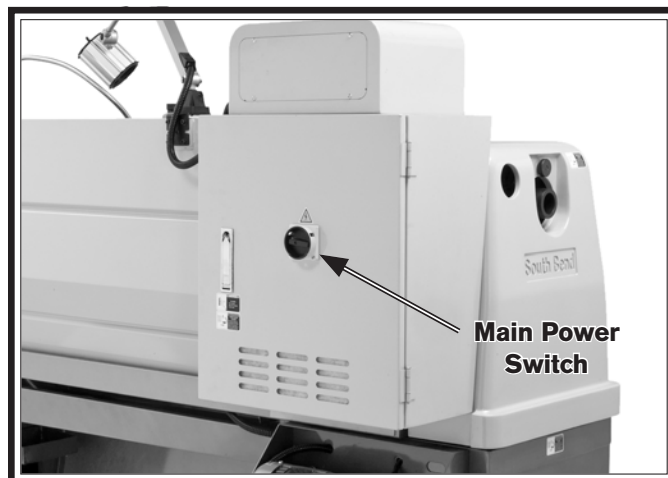

Figure 7. Location of the master power switch.
1. Make sure the master power switch (see **Figure 7**) on the rear of the machine is turned **OFF**.